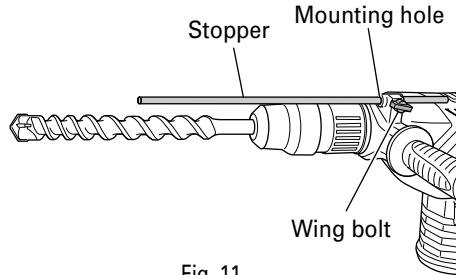

Fig. 11
- (c) Switch the selector lever to "hammering" according to the procedures mentioned in the above item (1) and secure the position of the tool.
5. Install the stopper (Fig. 11)